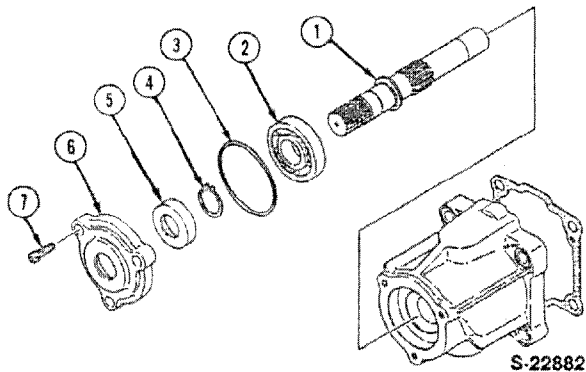

Figure 63
1. If removed, press the bearing (2) onto the drive shaft and secure with the snap ring (4), Figure 63.
2. Install the oil seal (5), and O-ring (3) into the case cover (6), Figure 63.